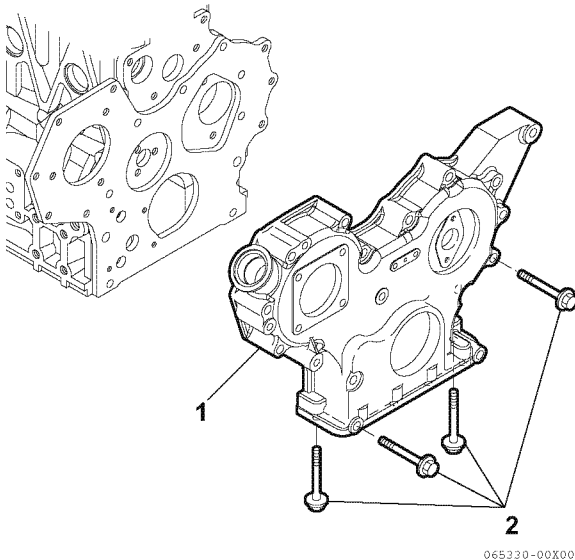

Figure 6-97
1. Apply a continuous bead of ThreeBond Liquid Gasket No. 1207F, YANMAR Part No. 977770-1207F to the mounting area of the gear case cover (1, **Figure 6-97**). Be sure to circle the bolt holes.